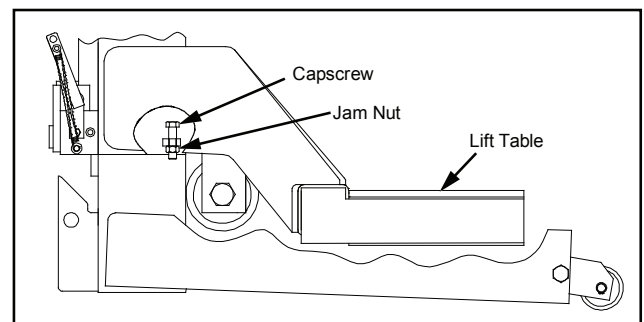

Figure 10
3. Loosen the jam nut and turn the capscrew a few turns in the required direction. Clockwise raises the lift table, counterclockwise lowers it (see Figure 10 for identification.)